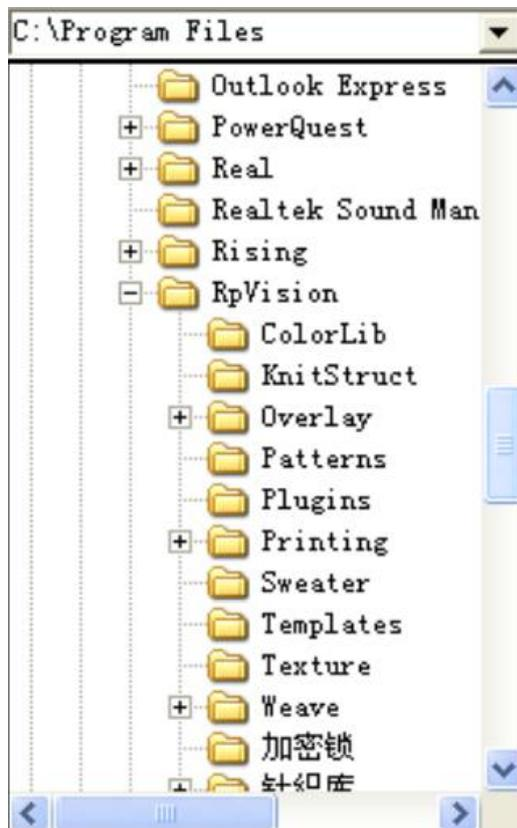

Figure 4-21
1) Display and edit (Figure 4-21)